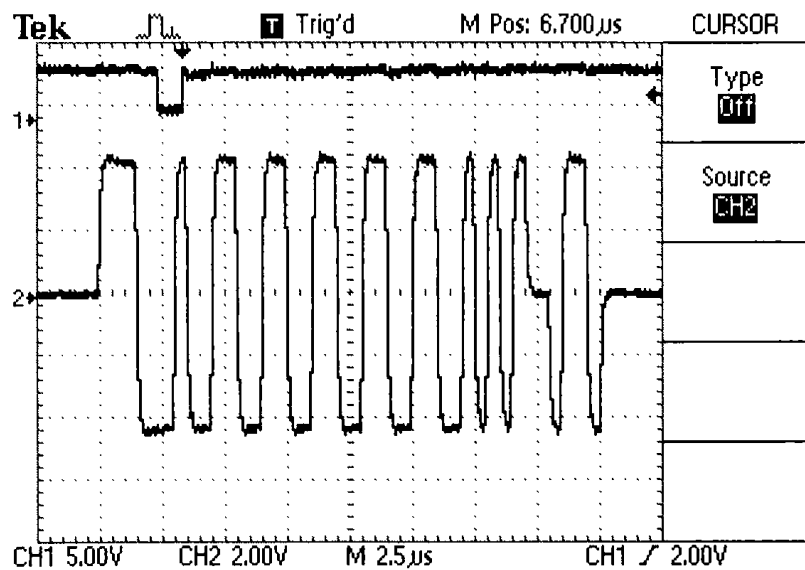

Figure 455-20: Dropped Bit on Position 16
Dropped Bit on Position 16. Follow the steps below to check the ability of the WA73A-455 to place a dropped bit on position 16. Refer to Figure 455-20.
3. Verify that there is a dropped bit in position 16 as Figure 455-20